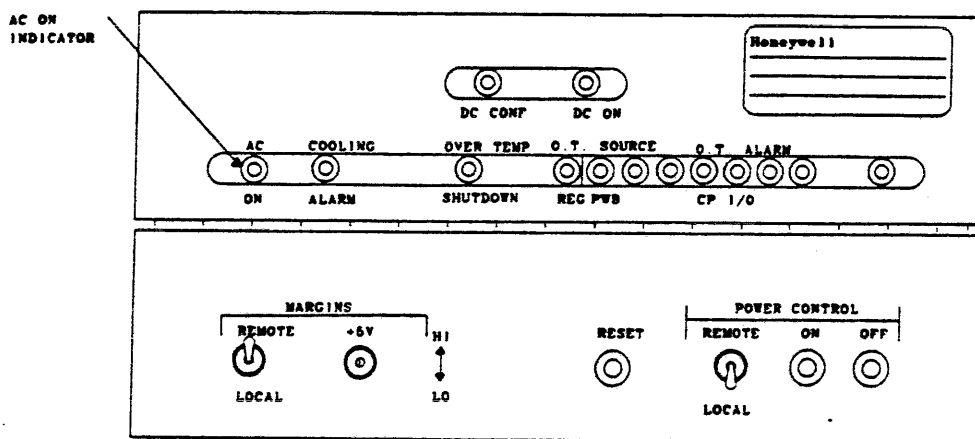

FIGURE 4-6. POWER CONTROL MODULE AT VC1 (AC ON INDICATOR)
- Verify that the AC ON indicator located on the Power Control Module at VC1 is illuminated. See Figure 4-6.